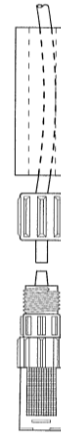

Figure 5: Ceramic-Weighted Strainer
5) Referring to Figure 5 slide ceramic strainer weight on suction tubing first then remove the coupling nut from the strainer and slide onto tubing next. Push the end of the tubing onto the strainer and hand tighten the coupling nut. Hand-tighten only, do not use wrenches. **Note:** Immerse tubing in hot water to soften prior to pushing on fitting.